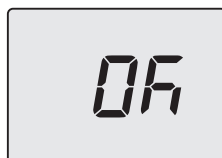

Figure 7.9
- 7 By pressing key "B" (Figure 7.4) confirmation of the inserted value is obtained. The display will show the following (Figure 7.9) for 5 seconds, then move up to the next level.
- 8 By pressing the keys "A" and "C" simultaneously (Figure 7.4) exits the level without changing the value (return to the previous level Figure 7.9).